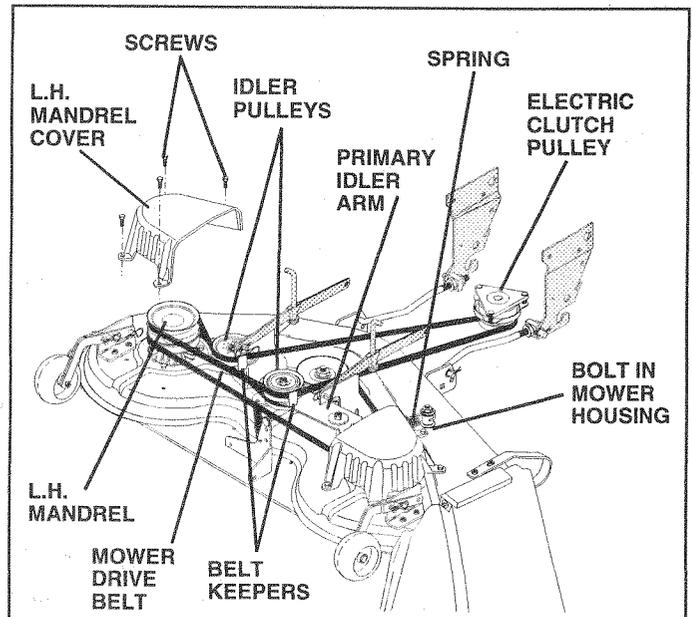

FIG. 26
**MOWER DRIVE BELT REMOVAL** (See Fig. 26) -
**MOWER DRIVE BELT INSTALLATION** (See Fig. 26) -